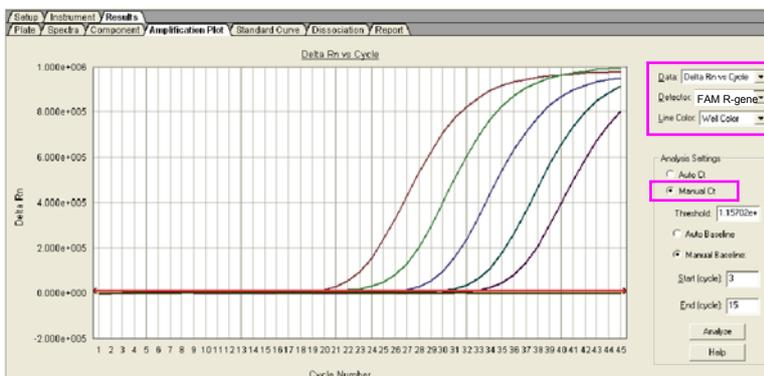

Fig.21
- In **DATA** field select **DELTA RN vs CYCLE** (Fig.21).